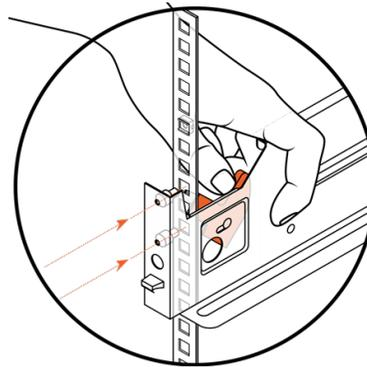

Figure 16-2. Installing a Rail (Front Post)
2. Install one of the two rails (the installation order does not matter) by pulling the spring-loaded lever back and inserting the locating pins or positioning studs in the front mounting post at the desired height. Release the lever once the rail is in place. See Figure 16-2.